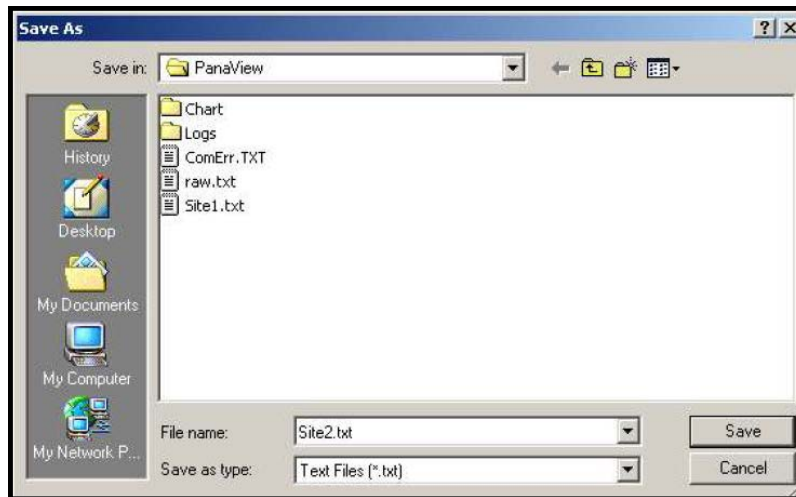

Figure 30: *Save As* Window
To save the raw signal, click **Save**. A window opens similar to *Figure 30* below. Enter the desired name, and click **Save** to save the signal as a text file.
2. Click *Save Site to PC*. A window opens similar to *Figure 30*.